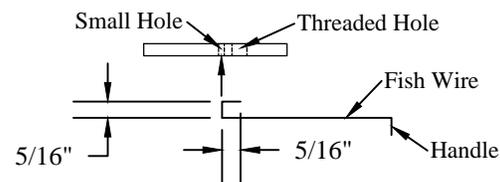

Figure 9: Fish wire dimensions.
- 11. Bend** the supplied fish wire as shown (Figure 9).
- 12. Insert** the fish wire through the small hole in the threaded bar (Figure 9).